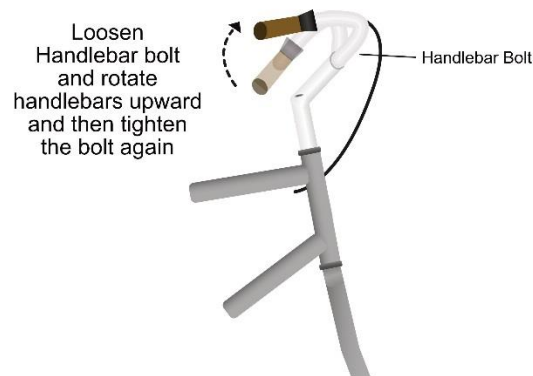

Figure 7 – Handlebar Adjustment
- (2) **Loosen the Handlebar Bolt and rotate the handlebars upward. Then tighten the Handlebar Bolt again.** (See Figure 7).